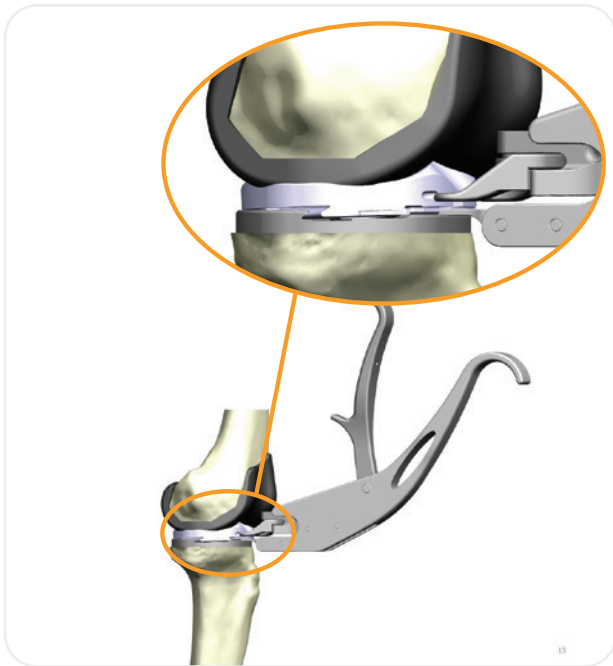

Figure 59
3. Insert the tip of the Articular Insert Assembly Tool into the center notch of the anterior lock detail (handle up) and engage the two tabs of the Tool into the two recesses on the anterior periphery of the insert (**Figure 59**).